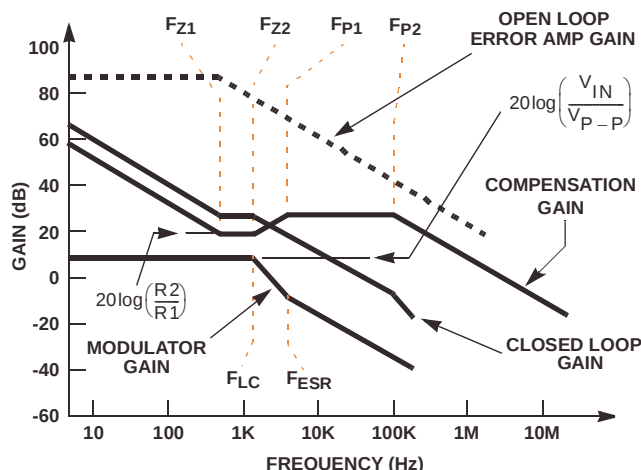

FIGURE 9. ASYMPTOTIC BODE PLOT OF CONVERTER GAIN
Figure 9 shows an asymptotic plot of the DC-DC converter's gain vs. frequency. The actual Modulator Gain has a high gain peak dependent on the quality factor (Q) of the output filter, which is not shown in Figure 9. Using the above guidelines should yield a Compensation Gain similar to the curve plotted. The open loop error amplifier gain bounds the compensation gain. Check the compensation gain at  $F_{P2}$  with the capabilities
of the error amplifier. The Closed Loop Gain is constructed on the log-log graph of Figure 9 by adding the Modulator Gain (in dB) to the Compensation Gain (in dB). This is equivalent to multiplying the modulator transfer function to the compensation transfer function and plotting the gain.